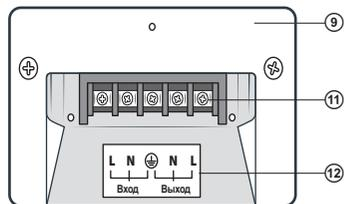

Fig. 4. Terminal box
• Voltage consumer-devices should be connected when the AVR is off. Open the terminal box ⑨ and with the help of relevant cables (not included) connect the appropriate load to the AVR terminals ⑩, after that connect the AVR to the 220 V household mains according to the diagram ⑫ in Fig. 4.
• Switch on the AVR with ON/OFF switch ⑦. Switch on connected voltage consumer-devices after that only.
• If the AVR operates properly, the green “Mains” LED ② illuminates, the LED ① will display the voltage at the output of the AVR, i.e. the output voltage.
• When the mains voltage exceeds the allowable rate (lower threshold is 133 V, upper threshold is 268 V) the LED ④ illuminates, the AVR disconnects the load automatically and the LED ① displays “L” or “H”.